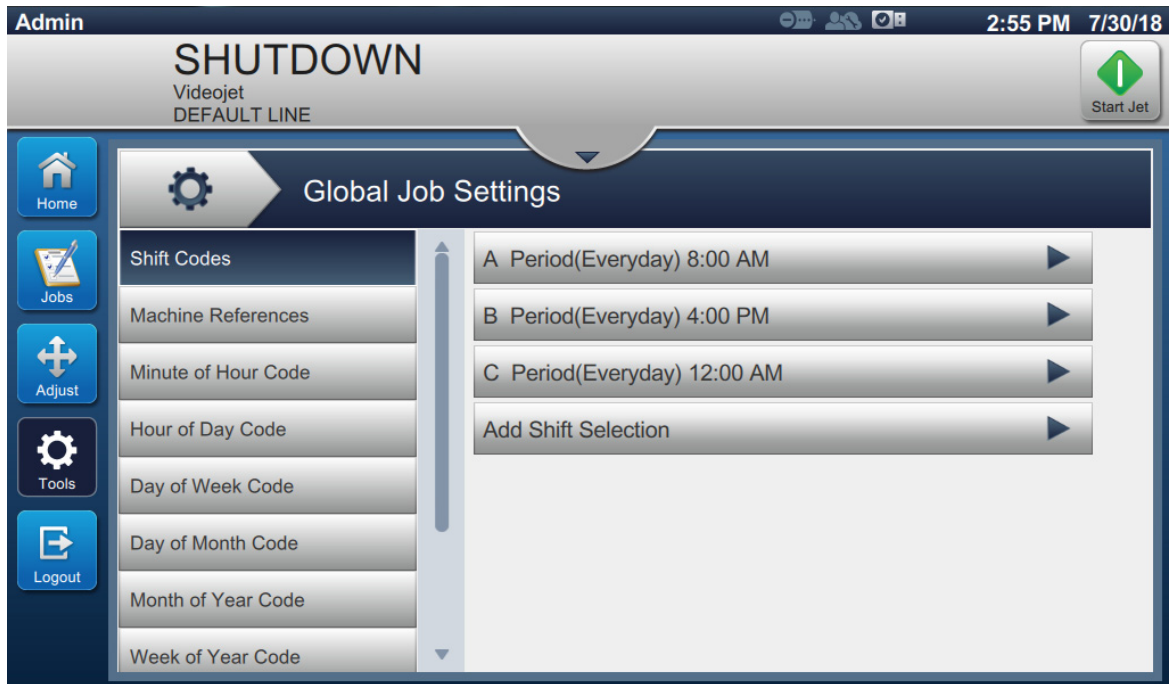

Figure 6-15: Global Job Settings
1. Touch the  button from the Tools screen. The Global Job Settings screen opens as shown in the Figure 6-15.